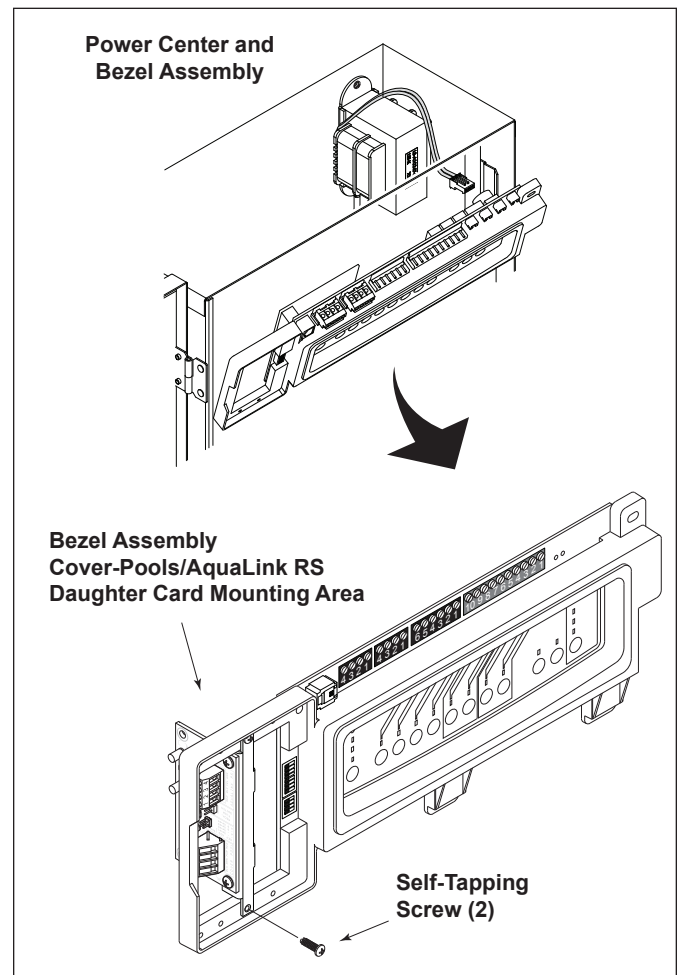

Figure 2. Installation of the Cover-Pools/AquaLink RS Interface Kit on the Bezel Assembly
1. Unscrew and remove the power center PCB and bezel assembly from the power center enclosure as shown in Figure 2.